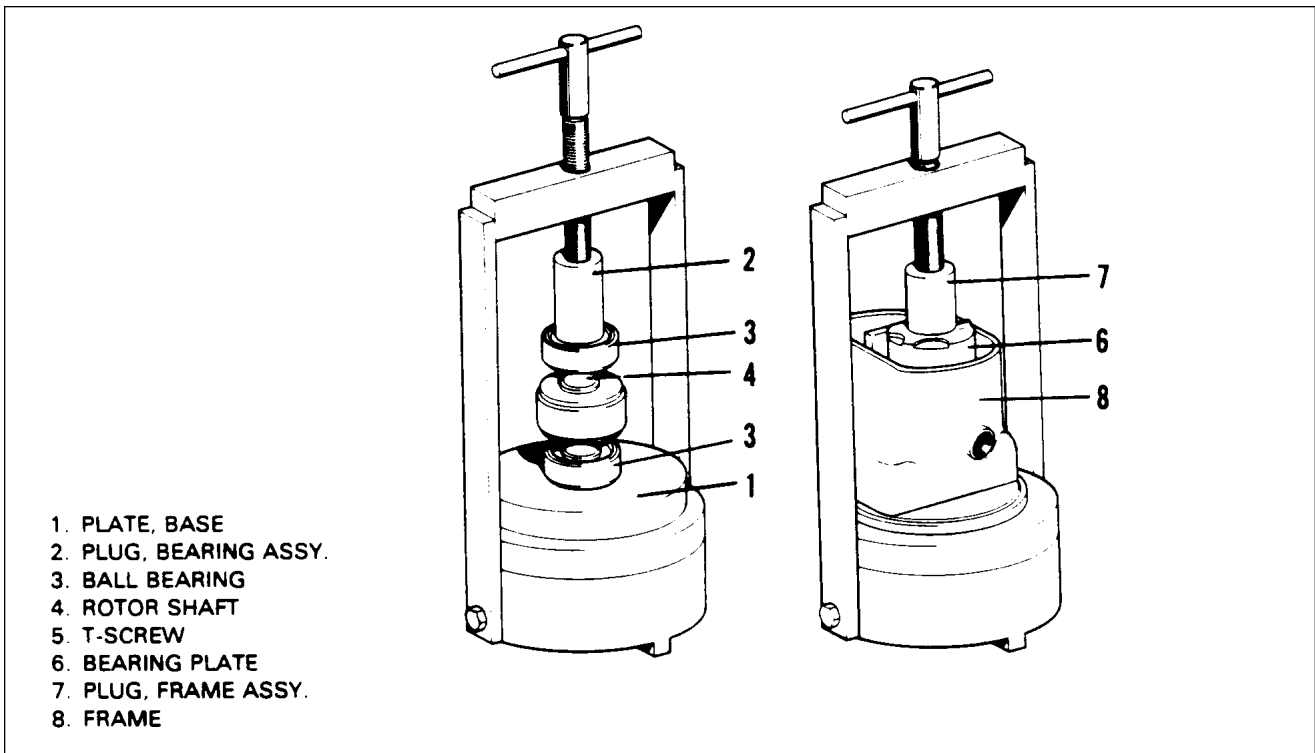

Figure 74-5. Installation of Bearings and Bearing Plate
- f. Insert base plate (T-117) and adapter plate bushing (T-119) into base of T-100 assembly and timing tool. Assemble both ball bearings on rotor shaft, making sure grease shield of each bearing is toward magnet. Place rotor shaft into base plate, threaded end down. (See Figure 74-5.) Using bearing assembly plug (T-101), turn T-screw down until both bearings are seated tightly against shoulder on rotor shaft. Remove base plate (T-117) and adapter plate bushing (T-119).
- i. Using rotor and frame assembling plug (T-102), turn T-screw down until plate bottoms in frame. (Refer to Figure 74-5.) Install bearing plate clamp on bearing plate, install screw, and lock washer. Tighten to a torque of 20-24 inch-pounds.